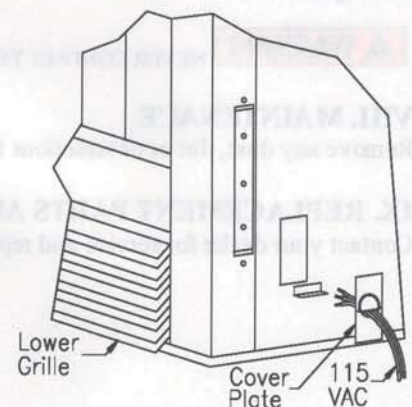

Fig. 2
1. Remove the electrical cover plate located on the lower exterior of the fireplace. Remove the knock-out from the plate. NOTE: Some models may have a round hole instead of a cover plate through which the service wires are fed. (Figure 2)